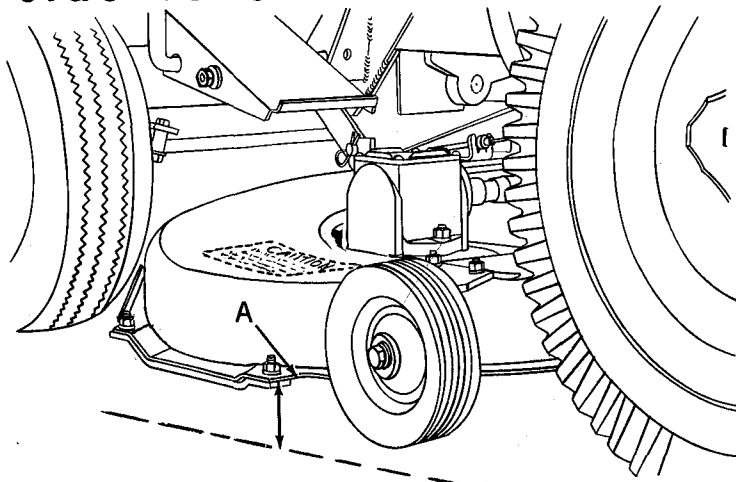

FIG. 19
1. Refer to Figs. 19 and 20. Inflate tires to recommended pressures. Place tractor, with mower mounted on a smooth level surface. Lift mower with lift lever until runners and gauge wheels are off the level surface. Measure the distance down from rear of housing (A) (at rear runner attaching points) to level surface. Distance down on both ends of mower must be the same. If not mower will not cut level from side to side.